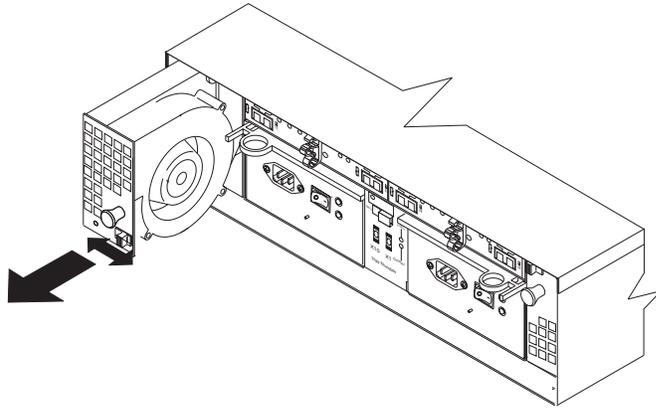

Figure 43. Replacing a hot-swap cooling fan
- b. Use the handle (black knob) to pull the fan from the fan bay as shown in Figure 43 on page 47.